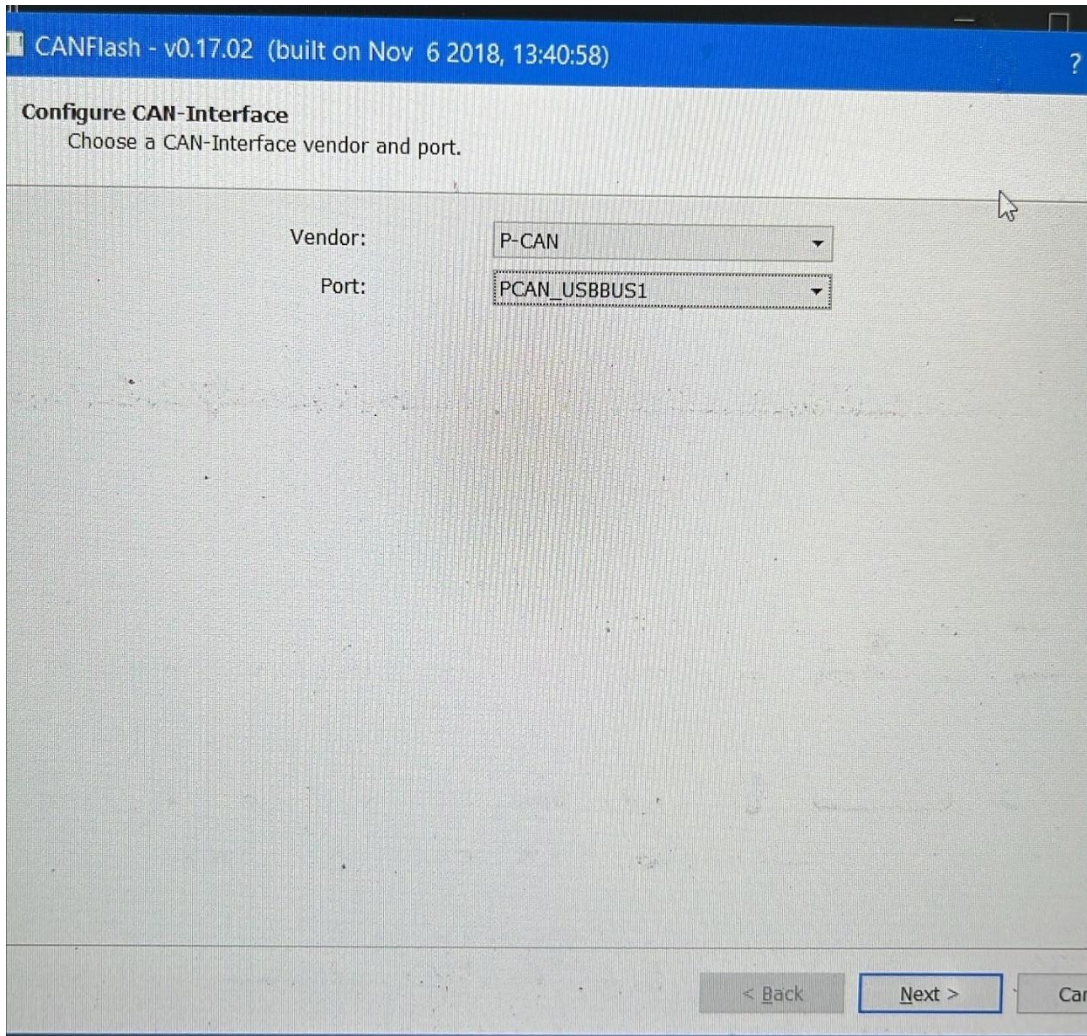

Figure 27: CANFlash PCAN settings
80. Once CANFlash is open select **P-CAN** under the Vendor drop-down menu. Select **PCAN_USBBUS1** under the Port drop-down menu (see figure 27). It's important to ensure the physical connection to the laptop matches the same port as dictated by the CANFlash setup. Click **Next** when complete.